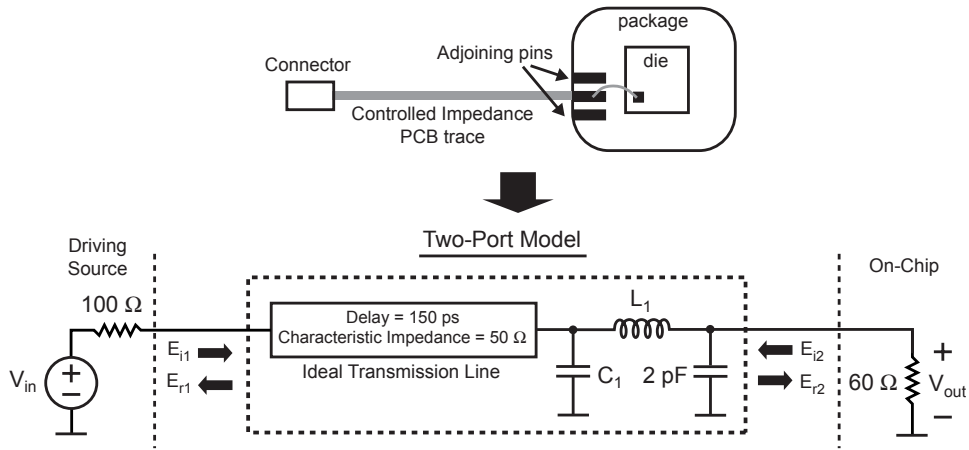

Figure 2: Example high speed trace and associated 2-port model.
4. Now consider the high speed trace and it's associated two-port model shown in Figure 2, which is similar to that examined in Problem 1. In this case, we will focus only on the relationship between the transmission line parameters and the physical PCB characteristics.